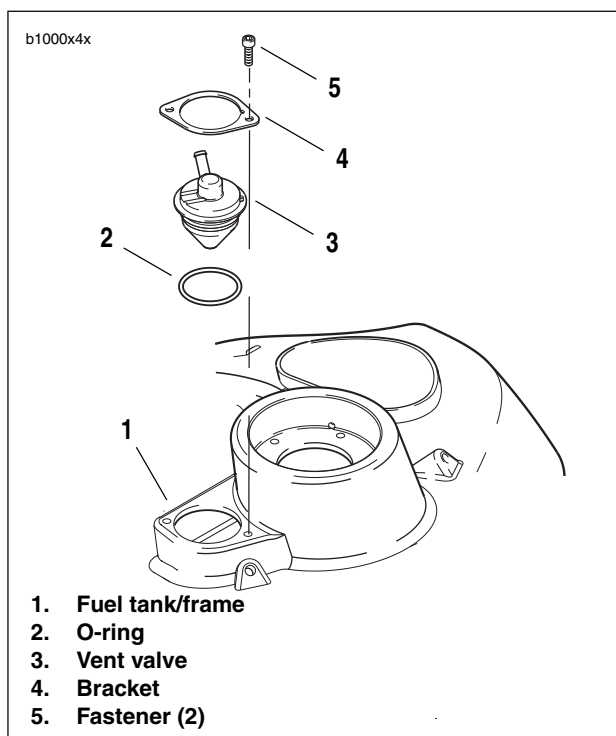

Figure 4-106. Fuel Tank Vent Valve
7. See Figure 4-106. Remove vent valve fasteners (5).
8. Remove bracket (4), vent valve (3) and o-ring (2) from fuel tank/frame (1).
1. See Figure 4-106. Install **new** vent valve o-ring (2).
2. Install vent valve (3) into fuel tank/frame. Vent valve nozzle should be at approximately the 7:00 position.
4. Loosely install vent valve fasteners (5).